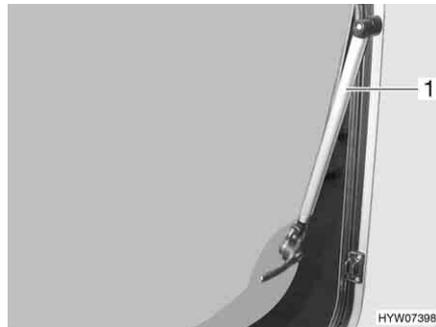

Fig. 59 Hinged window with automatic hinges
- Open the hinged window to the desired latched position. The automatic hinge (Fig. 59,1) locks in place automatically.